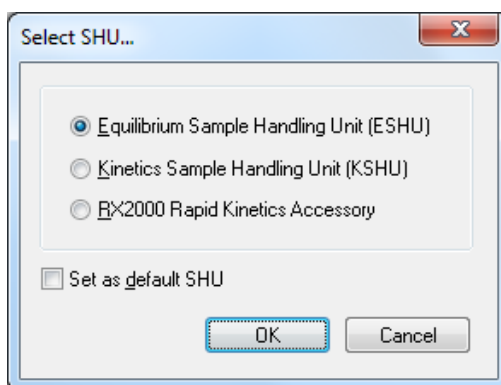

Figure 4.24: the Select SHU dialog box
- **Change Sample Handling Unit (SHU)** opens the **Select SHU** dialog box (Figure 4.24). Unless the Kinetics Sample Handling Unit (CS/SF) is fitted, **Equilibrium Sample Handling Unit** should be selected.